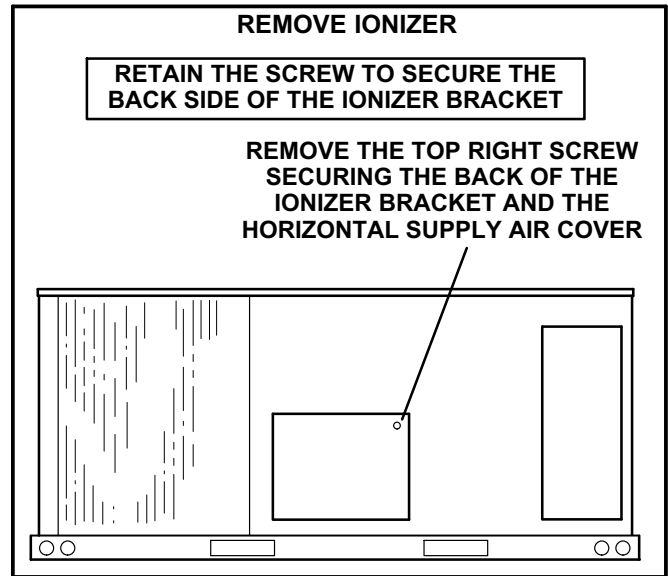

FIGURE 34
- 1- On the back side of the unit, remove the screw securing the back of the ionizer bracket. See figure 34. Retain the screw to secure the back side of the ionizer bracket.